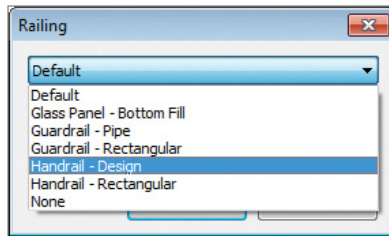

FIGURE 4.6 Specifying the railing type
2. Select the Railings Type option in the Tools palette. Specify the Handrail – Design type you created earlier (Figure 4.6), and click OK. Revit Architecture will use this default handrail whenever you create this stair, until you specify another type.